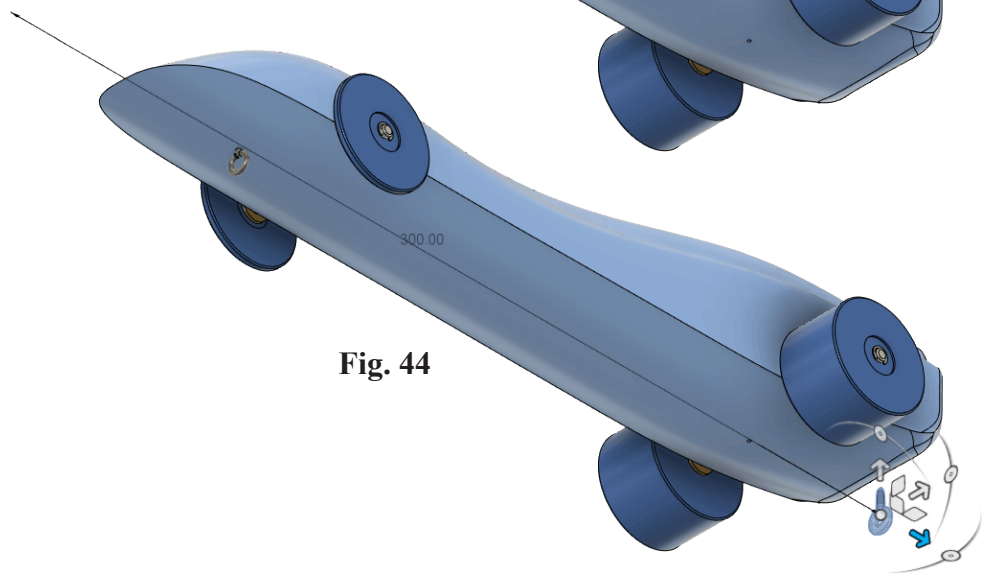

Fig. 44
Step 3. Use the Y Manipulator  to drag Eye Screw just past rear of Body, **Fig. 44**.